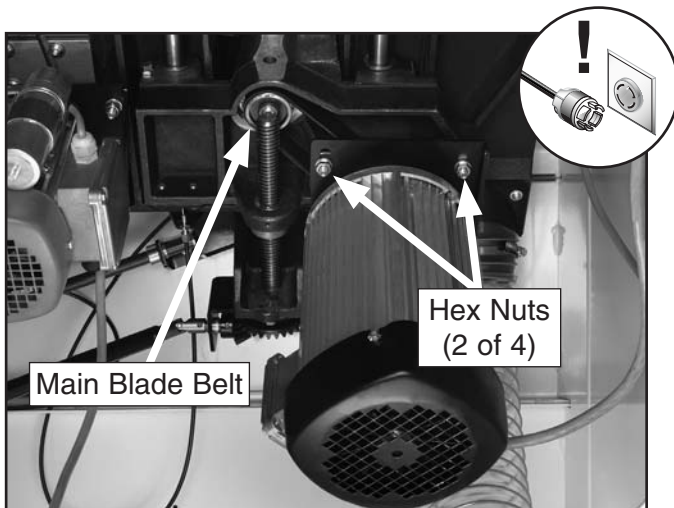

Figure 89. Main belt location.
4. Slightly loosen the four hex nuts so that the motor plate moves freely in the vertical plane (**Figures 89–90**).